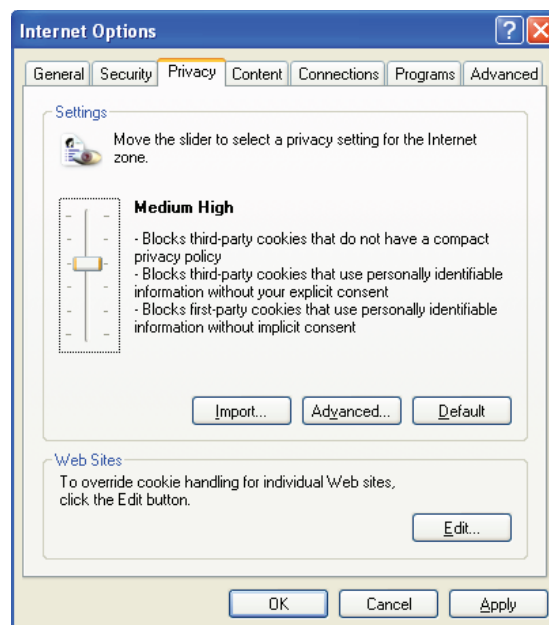

Figure 37. Internet Options
1. Open Internet Explorer and select **Tools > Internet Options**. The Internet Options window appears (see figure 37).